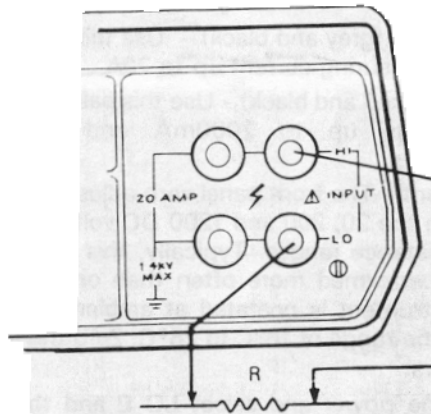

Figure 2-5. Resistance (Ω) Measurement
3. Connect the unknown resistance (R) to the INPUT jacks of the 179A as shown in Figure 2-5.